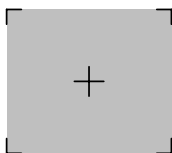

Figure 2-3 Laser Aiming Pattern
3. When the digital scanner senses movement, in its default **Auto Aim** trigger mode, it projects a red laser aiming pattern (shown in Figure 2-3) which allows positioning the bar code or object within the field of view. (To turn off the default **Auto Aim** trigger mode, see Trigger Mode on page 4-8.)